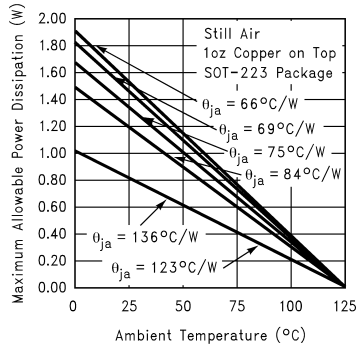
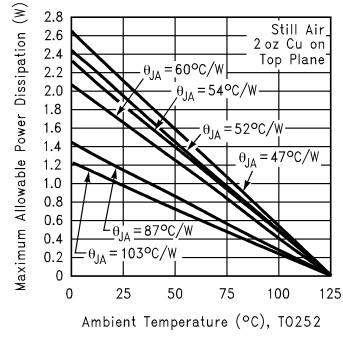
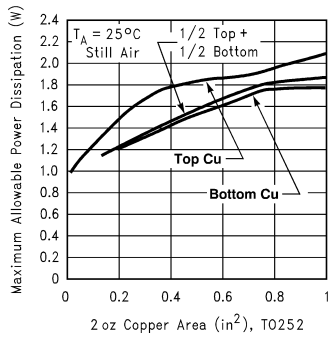

FIGURE 9. Maximum Allowable Power Dissipation vs. Ambient Temperature for SOT-223
FIGURE 10. Maximum Allowable Power Dissipation vs. Ambient Temperature for TO-252
FIGURE 12. Maximum Allowable Power Dissipation vs. 2oz Copper Area for TO-252
*Figure 9* and *Figure 10* shows the maximum allowable power dissipation vs. ambient temperature for the SOT-223 and TO-252 device. *Figure 11* and *Figure 12* shows the maximum allowable power dissipation vs. copper area (in2) for the SOT-223 and TO-252 devices. Please see AN1028 for power enhancement techniques to be used with SOT-223 and TO-252 packages.